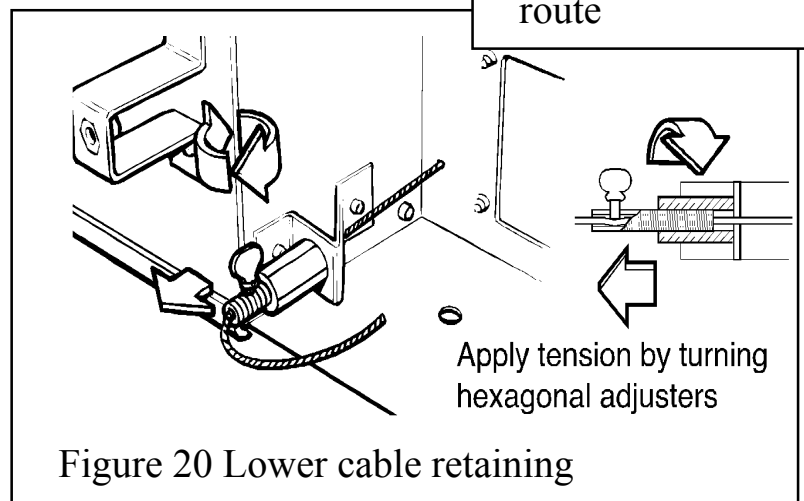

Figure 20 Lower cable retaining
8. Pull each cable taut. Push the cable retainers hard up against the "V" brackets. Tighten the screws in the retainers so that they clamp the cables in position. Apply tension to the cables by turning the hexagonal adjusters by hand. See figure 20.